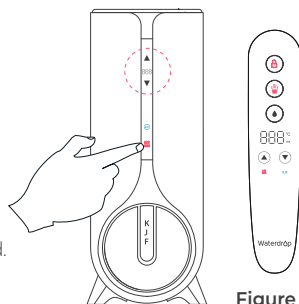

Figure 17
a. Start up/shut off heating mode (Figure 17)